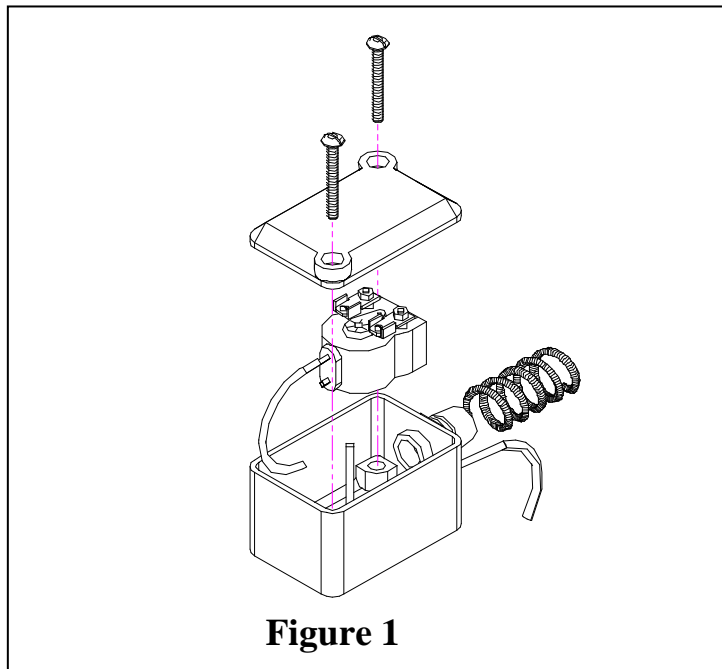

Figure 1
1. Bump the rubber safety edge with your hand and observe input X5 on the PLC. If LED does not flash off or was never on, then adjust the pressure switch. Flip RUN/STOP switch on PLC to the STOP position to ensure that door is unable to be actuated while performing this adjustment. Remove cover of pressure switch enclosure (Figure 1). Rotate white plastic screw on pressure switch counter-clockwise with small screwdriver until LED turns off. Rotate screw clockwise until input LED turns on. Turn another 1/4 turn. Test safety edge and observe LED (it should turn off momentarily whenever pressure is applied to safety edge).